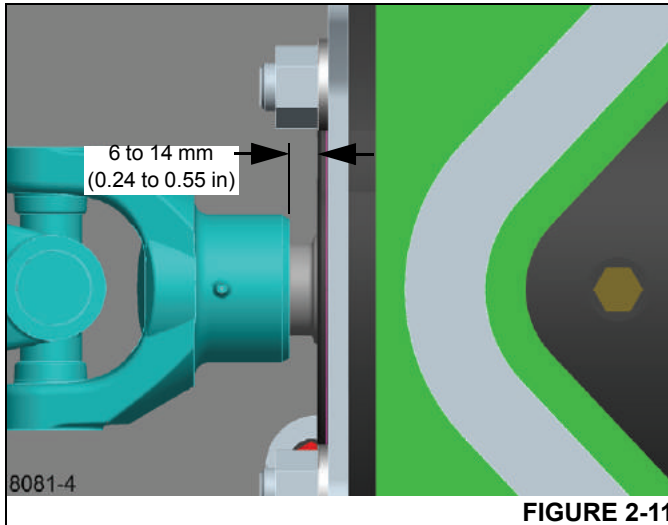

FIGURE 2-11
5. Adjust the clutch/mounting bracket/pump assembly fore and aft to position the driveshaft between 6 to 14 mm (0.24 to 0.55 in) from the clutch face Figure 2-11.